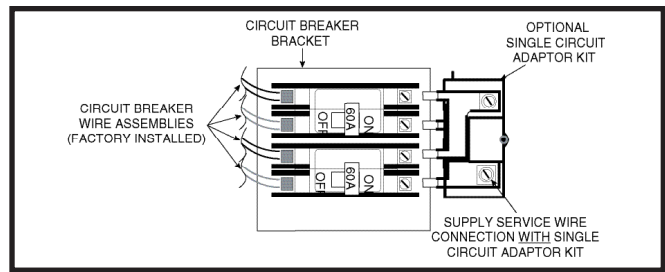

Figure 16. Optional Single Circuit Adaptor Kit
2. Use optional upflow stand with filters or construct a suitably braced mounting platform in closet. See Figure 16 \(page 13\).
6. Use optional upflow duct connector or field supplied connector to attach furnace to overhead supply duct. See Figure 16.